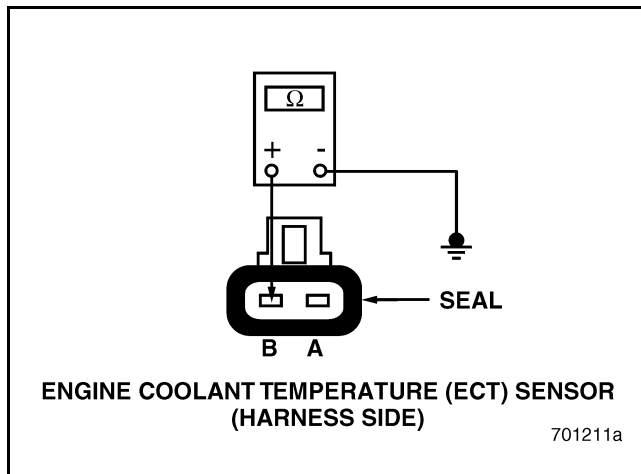

Figure 149
4. Check for continuity between pin B of the ECT Sensor harness connector and a good ground (see Figure 149).